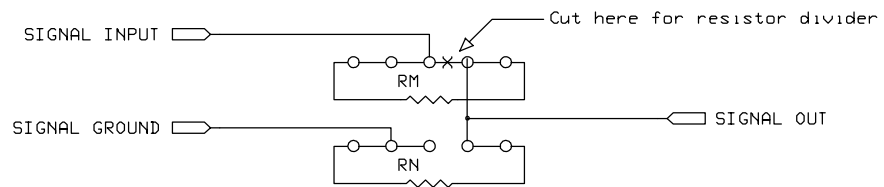

Figure 9.
To configure a current input, place a resistor in the location on the termination board corresponding to the input pin being reconfigured. Figure 9 and Table 2 show resistor placement. The appropriate size for this resistor can be calculated using Ohms law, given the maximum input current and the input voltage range of the Data Acquisition Processor.
Once this trace is cut, the resistors for the voltage divider are soldered into place. The resistor on the ground side of the divider is placed in an odd numbered resistor location and the resistor on the input signal side of the divider is placed in an even numbered resistor location. Figure 9 and Table 2 illustrate resistor placement for each input.
** The first resistor is on the ground side of the voltage divider (RN), the second is on the input signal side (RM), as shown in the previous diagram. For example, R31 is RN and R32 is RM. Figure 9 shows the resistor placement.
Table 2 and Figure 9 can be used to locate the appropriate resistors when using either the current input or voltage division configuration. Figure 9 shows schematically how the inputs and grounds on the termination board are connected.